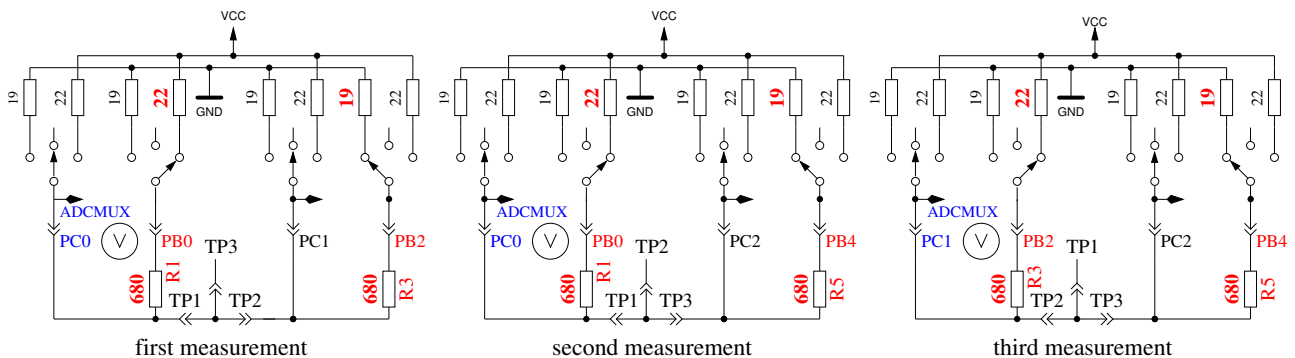

Figure 5.45: Comparison of 680Ω resistors
- Comparing of the 680Ω resistors.** In row 1 the cryptic text “+RL- 12 13 23” is shown. Meaning of this is as follows: The RL is the short form of Resistor Low meaning the 680Ω resistors. The 12 stand for: resistor at pin 1 is connected to VCC (+) and resistor at pin 2 is connected to GND (-). The result of this measurement is displayed in row 2 at the first place as difference to the theoretical value. In row 1 follows now a “13” which means, that the first connection of measurement 1 is still connected with 680Ω to VCC but that the resistor of pin 3 is connected to GND. The result is displayed in the middle place of row 2 as difference to the theoretical value. The last measurement of this test “23.” means that now the resistor at pin 2 is connected to VCC (+) and the resistor of pin 3 is connected to GND. The result of measurement is displayed at the last place of LCR row 2 as difference to the theoretical value. Please remember, that the resolution of the ADC is about 4.88mV! The measurement situation is also shown in figure 5.45. The theoretical value with respect to the internal resistance of the pins should be:  $\frac{5001 \cdot (19+680)}{(19+680+680+22)} = 2493$ .